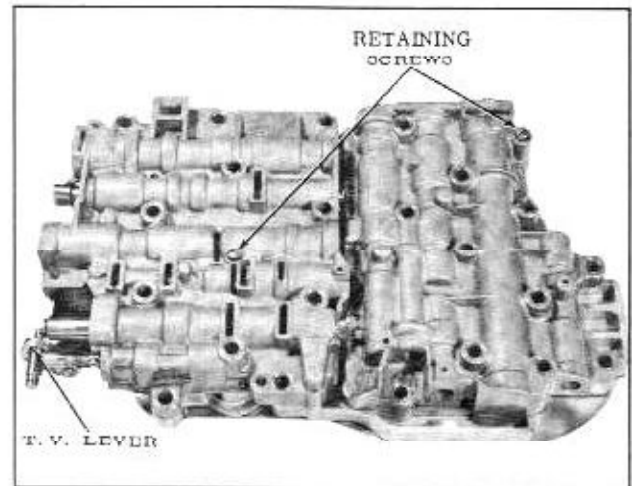

Fig. 3-85 Control Valve Assembly
1. Place control valve assembly on a CLEAN surface with the channel plate to case spacer down and the rear T.V. lever located in the lower left hand corner. (Fig. 3-85)